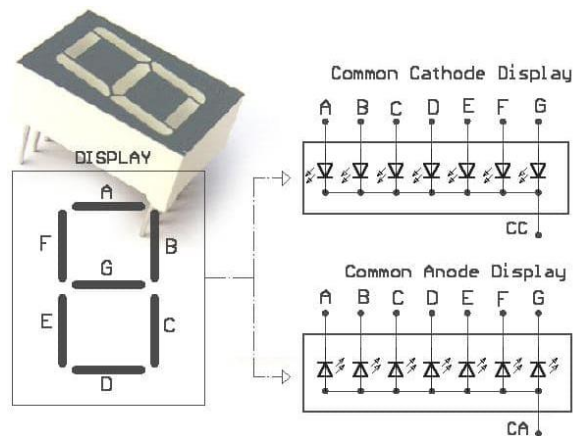

Figure Q5
5. Two different types of 7-segment display are shown in Fig. Q5: a common cathode (CC) 7-segment display where all the cathode terminals (-) are connected and the anode terminals (+) (A, B, C, ... and G) are controlled individually by a microcontroller and, a common anode (CA) 7-segment display, where all the anodes of the LEDs are connected and the cathode terminals (A, B, C, ... and G) are individually controlled by microcontroller. Note: any LED with 0V (or not connected) at the anode will be off regardless of the applied voltage on the cathode and any LED with 5V (or not connected) on the cathode will be off regardless of the applied voltage on the anode. It is required to drive five of these 7-segment displays (three are CC type and two are CA type) with an Arduino Mega. Only 16 digital output pins are available on the Arduino (Port A: PA0-PA7 and Port B: PB0-PB7).